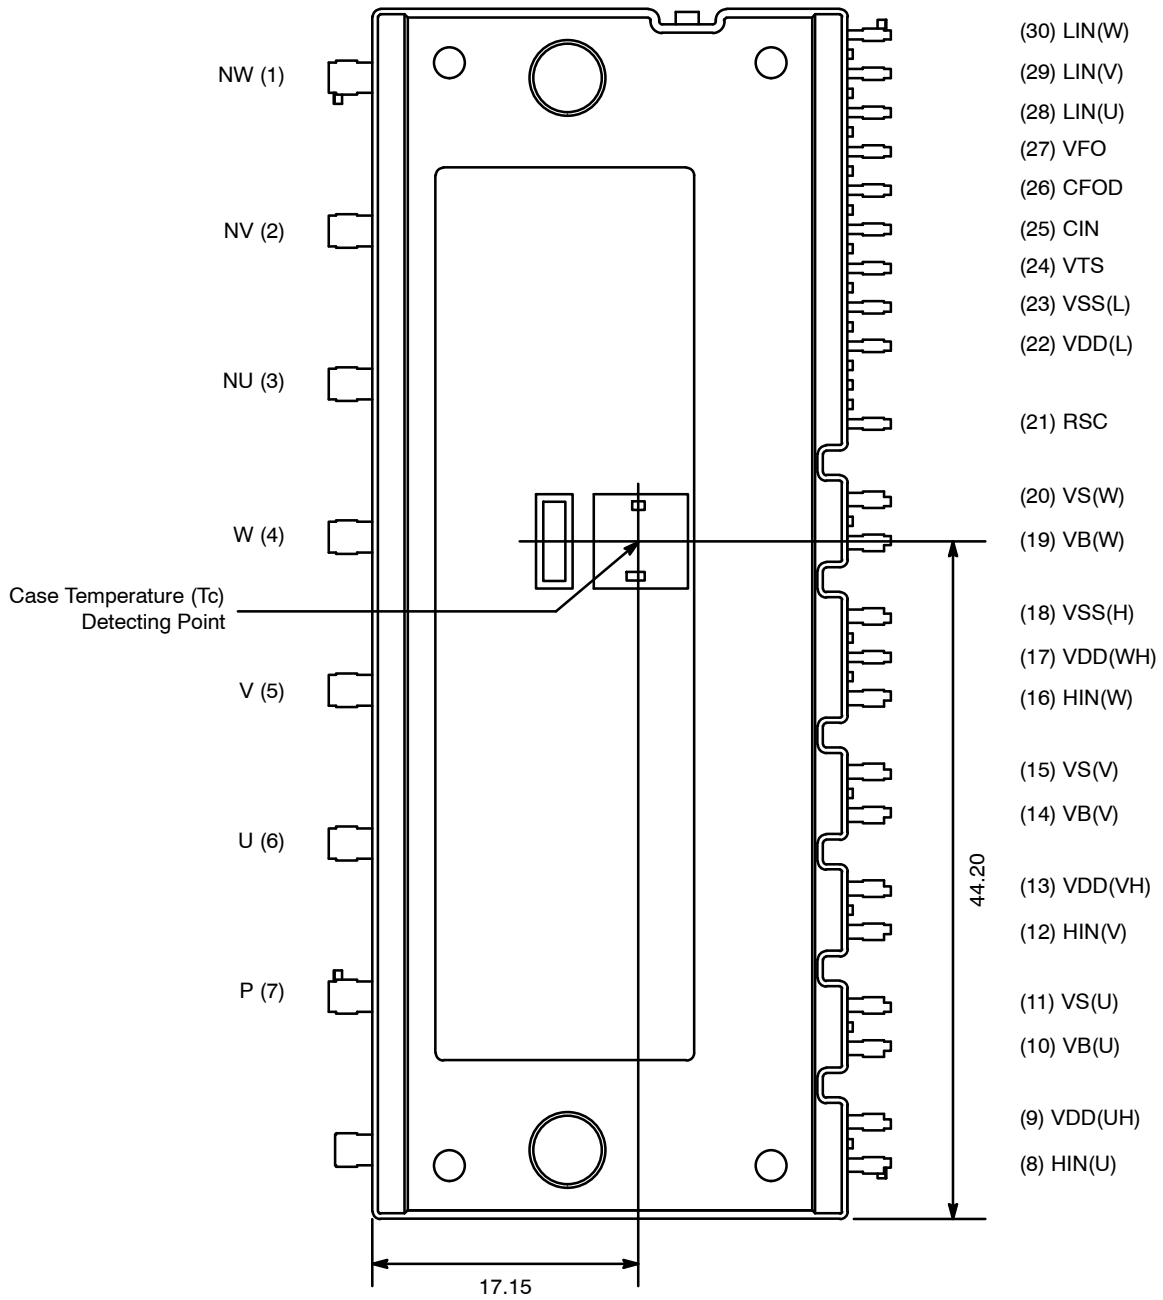

Figure 1. Pin Configuration – Top View
| T c   | Module Case Operation Temperature  | See Figure 1  | -40~125 | °C   |
5. For the measurement point of case temperature (Tc), please refer to Figure 1. DBC discoloration and Picker Circle Printing allowed, please refer to application note AN-9190 (Impact of DBC Oxidation on SPM® Module Performance).